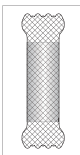

Fig. 2b
- The stent can be covered by silicone on request. The silicone covering has characteristics of excellent biocompatibility and prominent corrosion tolerance. And it can inhibit the tumor ingrowth through the stent mesh as well as occlude the intestinal fistula. (Refer to Fig. 2b)